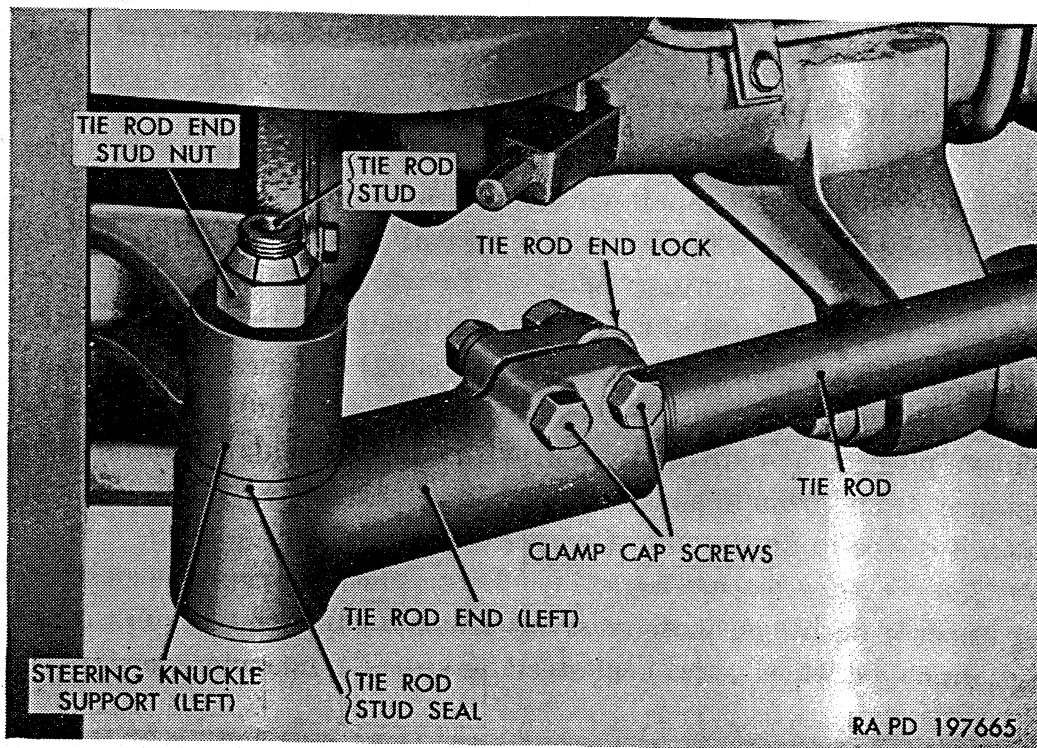

Figure 227. Tie rod installed (left side shown).
- (1) Place vehicle on a level surface and apply parking brake. Place a jack under front axle and raise enough to take weight of vehicle off front wheels.
- (2) Loosen two tie rod end clamp screw nuts at each end of tie rod; then remove inner clamp screws and nuts; also lock (fig. 227) at tie rod left end. Remove tie rod end stud nut at each end of tie rod. Tap steering knuckle support arm a sharp blow with hammer as downward pressure is applied to tie rod end with pinch bar. Move each tie rod end down, and at same time twist forward until free from steering
- (1) Thread tie rod ends onto tie rod an equal distance. Each tie rod end will engage tie rod a distance of 3 inches when in approximately correct location.
- (2) Carefully measure distance between centerline of tie rod end studs; then thread tie rod ends on or off until dimension is  $62\frac{17}{32}$  inches. This dimension will approximate correct toe-in after tie rod is installed.
- (3) Install two  $\frac{1}{2}$ -20 x  $2\frac{1}{2}$  cap screws and  $\frac{1}{2}$ -20 nuts used to clamp tie rod ends to tie rod. Also install tie rod lock at tie rod end (left) (fig. 227). Do not final tighten cap screw nuts until toe-in check is made.
- (4) Place tie rod stud seal (fig. 227) over each tie rod stud. Position tie rod assembly with end having coarse threads to right, and end with lock to the left. Insert tie rod end studs into tapered holes in support arms. Install  $\frac{7}{8}$ -14 safety nut on each tie rod end stud. Do not final tighten nuts.
- (5) Check and adjust toe-in (par. 220).
- (6) After toe-in adjustment has been made, final tighten tie rod end clamp screw nuts to 48 to 64 pound-feet torque. Final tighten tie rod end stud nuts to 85 to 125 pound-feet torque.
*b. Toe-In Adjustment* (fig. 227). Loose wheel bearings, worn steering knuckle bushings, loose steering knuckle support trunnion bearings, damaged wheels, and bent steering knuckle, housing, and tie-rod